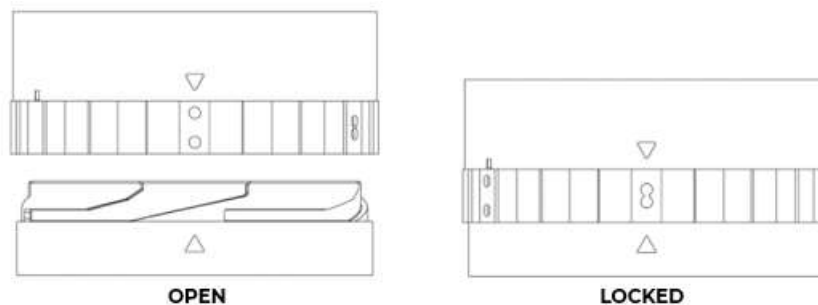

Figure 8: Locking Ring in the Open and Locked Positions
3. Ensure the locking-ring is open by turning it until the two separated (OPEN) indicator dots are centered on the alignment arrows (▲▼ symbols). See Figure 8 below.